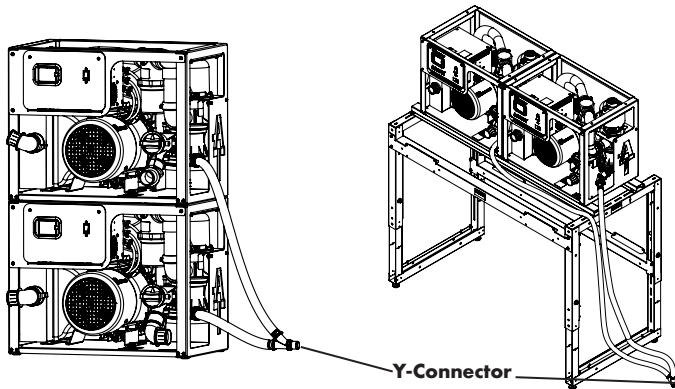

Figure 11. Water Outlet Connection
- Connect water outlet hoses together using the Y-Distributor connector (P/N 56778) from kit. (See Figure 11)